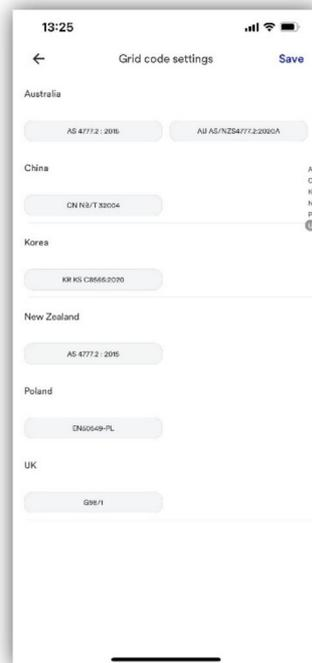

Figure13 Grid code settings
1. As shown in Figure 13, this page is used to switch the safety standard code